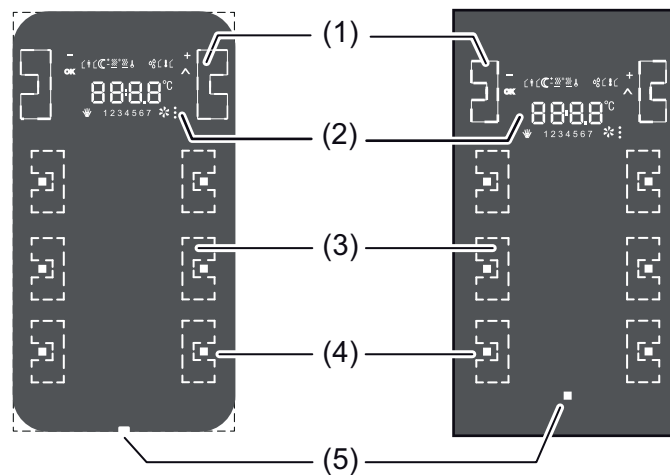

Figure 1: Device components, front side, using the "3-gang" variant as an example
The device consists of several sensor areas, which can be operated by touching them with your finger. With the sensor surfaces, a distinction is made between the display buttons (1) and the buttons of the push button sensor function (3) (Figure 1). The display buttons are located immediately to the left and right of the display and operate predefined functions of the integrated room temperature controller or the controller extension. In addition, these buttons can also be used to activate the Cleaning function to clean the glass surface.